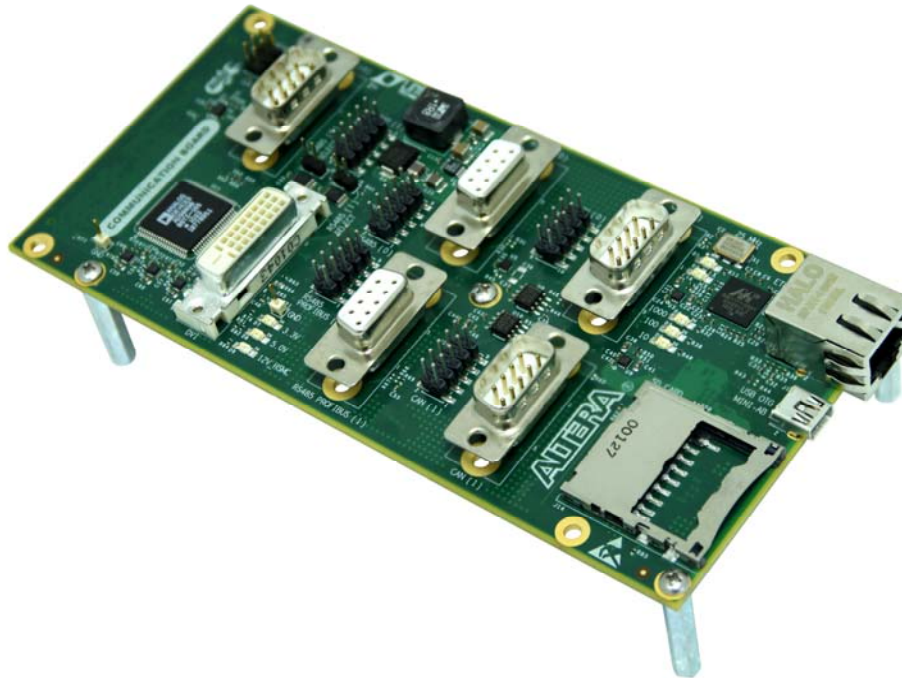

Figure 1-1 Picture of the HSMC Communication card
**Figure 1-1** shows the photo of the HSMC Communication card. The important features are listed below: